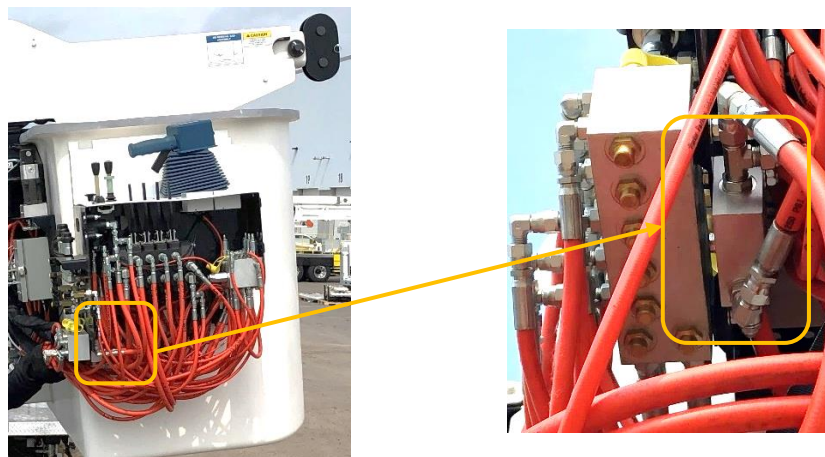

Figure 1. Counterbalance valve at the platform controls
- a. If there is not a counterbalance valve as identified in Figure 1, this bulletin does not apply.